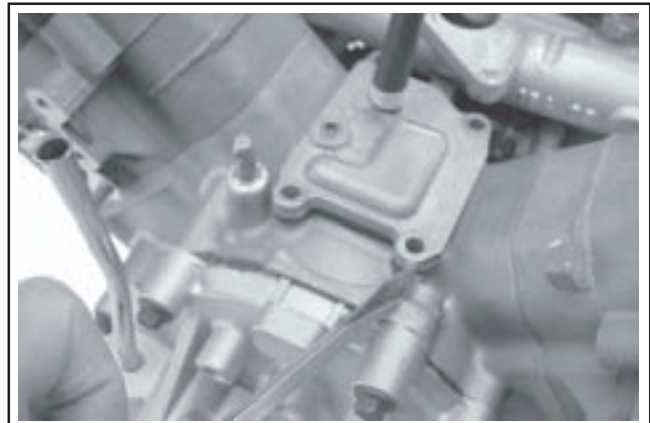

Figure 9-26. Prying Off the Breather Cover.
2. Carefully pry under the protruding edge of the breather cover to separate and remove the cover from the gasket. See Figure 9-26.